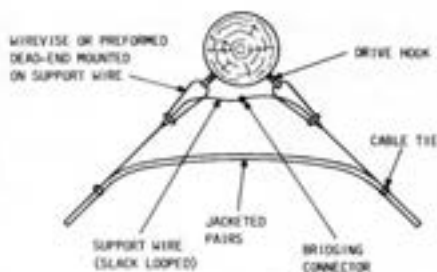

Fig. 11—Turn In Multiple Drop Wire Run at Intermediate Pole
4.03 At installations where pole-to-pole spans are required, attach the support wire at end pole of the run in the same manner as described in paragraph 4.02. If splicing is required, follow the instructions in Part 7. The support wire must be both electrically and mechanically continuous. To maintain continuity at areas where support wire is not under tension, use a bridging connector (see Fig. 11).
4.05 When it is necessary to make a turn in the multiple drop wire run at an intermediate pole location, attach the drop wire as shown in Fig. 11.